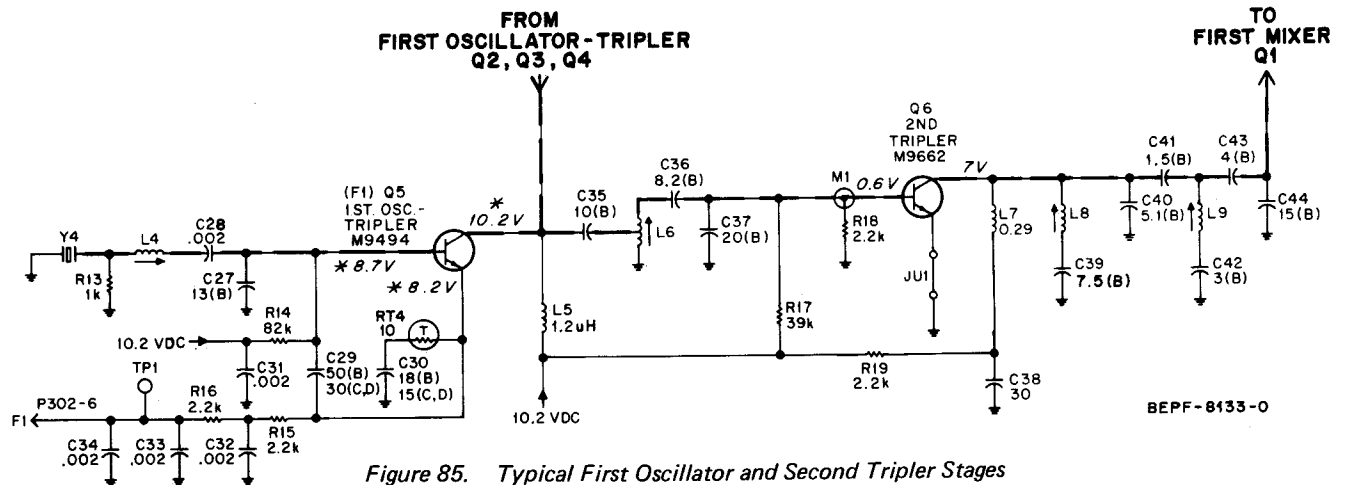

Figure 85. Typical First Oscillator and Second Tripler Stages
(2) First Oscillator-Tripler and Second Tripler Stages (Refer to Figure 85)